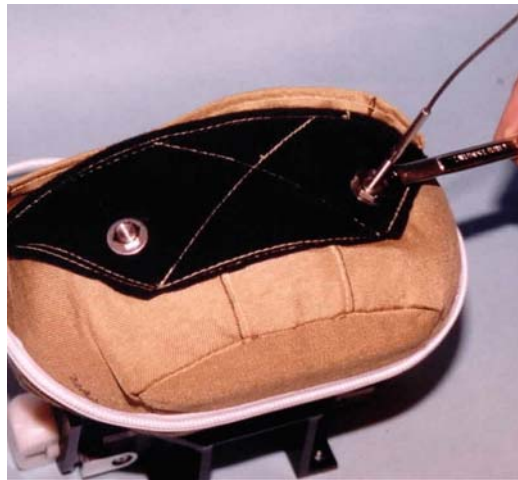

Figure 17.16- Install washer and thread on the panel nut
19. Thread a stainless steel washer and a panel nut onto each DGSP assembly cable, as shown in **Figure 17.16**.